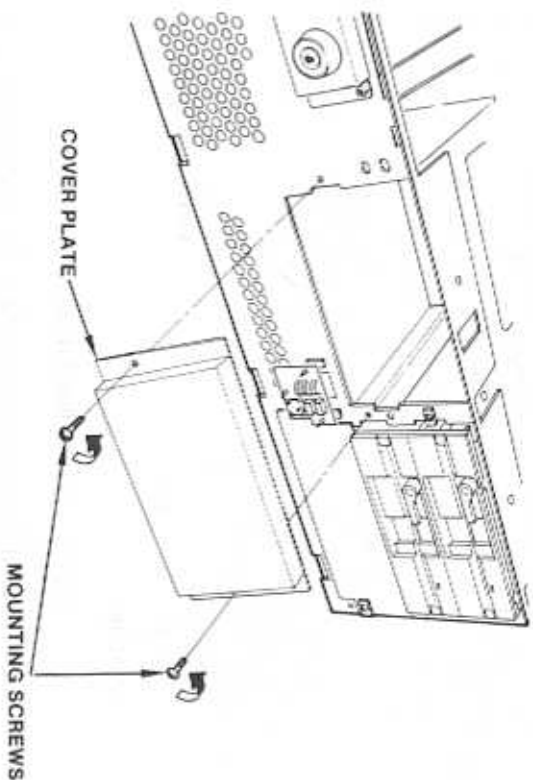

Figure 11-16. Removing the Cover Plate
2. Remove the plate covering the fixed-disk drive slot to the left of the diskette drive (Figure 11-16).